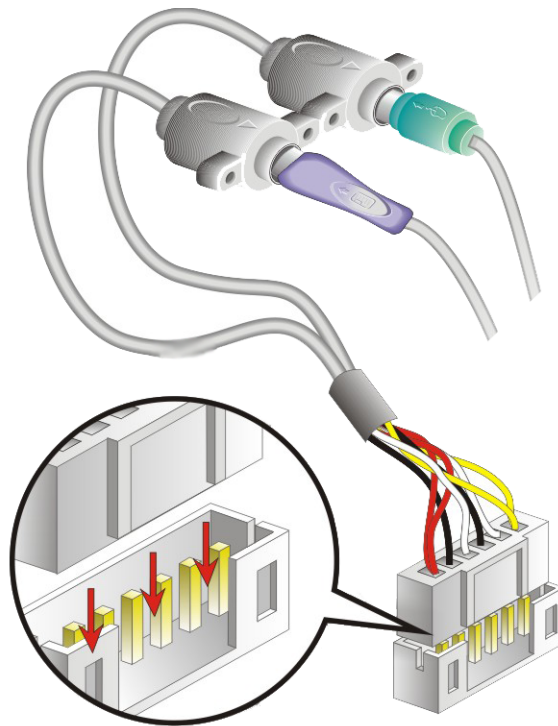

Figure 5-11: Keyboard/mouse Y-cable Connection
Step 2: Align the connectors. Correctly align pin 1 on the cable connector with pin 1 on the 3308470 keyboard/mouse connector. See Figure 5-11.
Step 3: Insert the cable connectors Once the cable connector is properly aligned with the keyboard/mouse connector on the 3308470, connect the cable connector to the on-board connectors. See **Figure 5-11**.